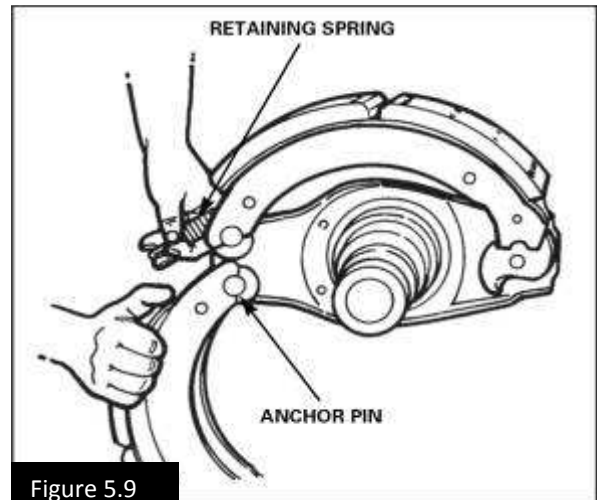

Figure 5.9
16. Place the upper shoe in position on the top anchor pin. Hold the lower brake shoe on the bottom anchor pin and install two new brake shoe retaining springs. Figure 5.9.